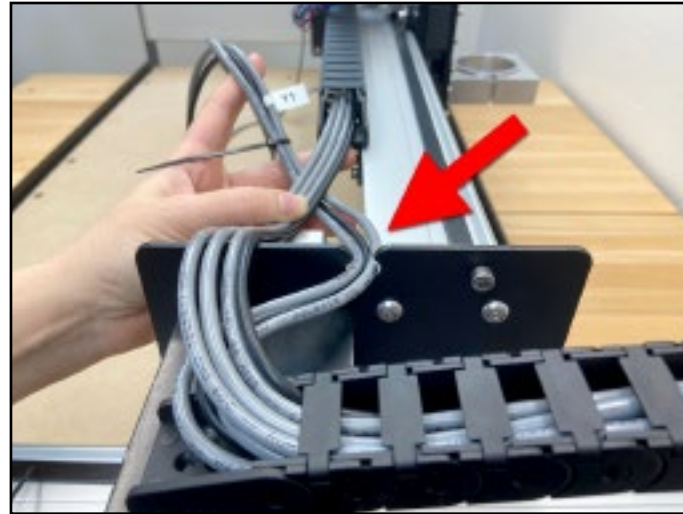

Figure 9-4
1. Insert the cables one at a time, beginning with the three Y-cables and followed by the four X- and Z-cables. See **Figure 9-4**.